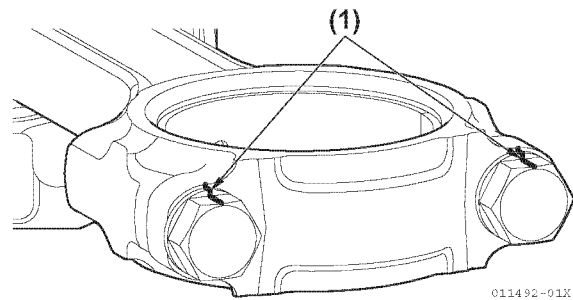

Figure 5-101
- If a torque wrench is not available, make match marks on the bolt heads and rod cap (to indicate the proper torque position) and retighten the bolts to those positions (Figure 5-101).